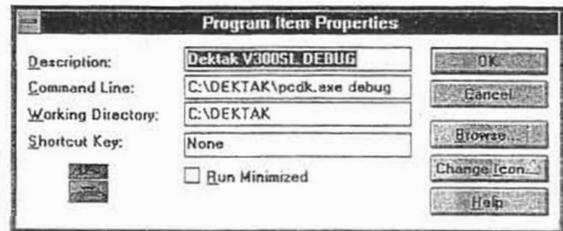

Figure 2
- Verify that the command line in the file properties is as shown in figure 2. If not, then record what they are, and change them appropriately.